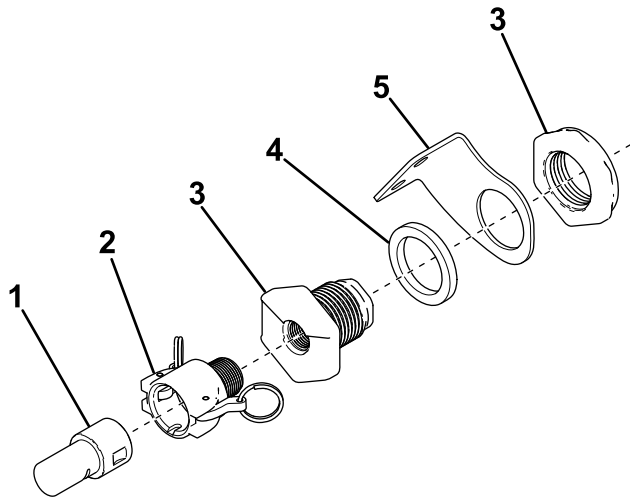

Figure 8
1. Connect the spray nozzle, quick coupler, and bulkhead to the nozzle mounting bracket as shown in Figure 8.